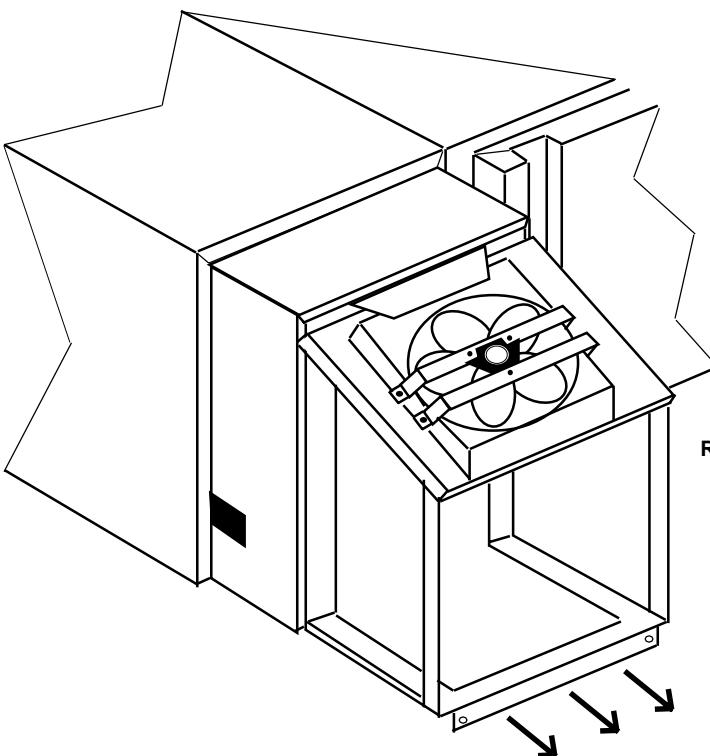

Fig. 9
7. Grasp the condenser fan mounting brace and pull the powerpack up and out gently. This allows the unit to come forward enough so as to enable the powerpack to be pulled out of the top and bottom lip brackets (see figure 9).